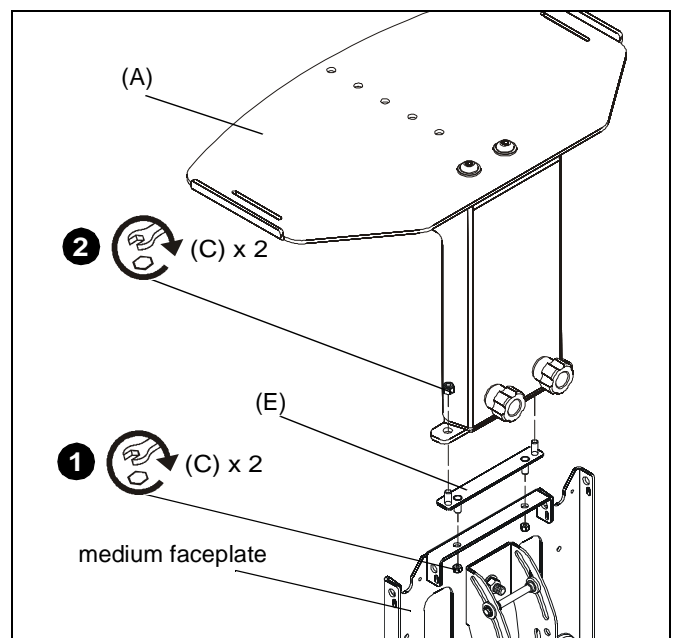

Figure 3
1. Use two 1/4-20" lock nuts (C) to secure medium faceplate adapter (E) to top or bottom of medium faceplate. (See Figure 3)
2. Thread two 1/4-20" lock nuts (C) onto screws to secure shelf to medium faceplate adapter (E). (See Figure 3)